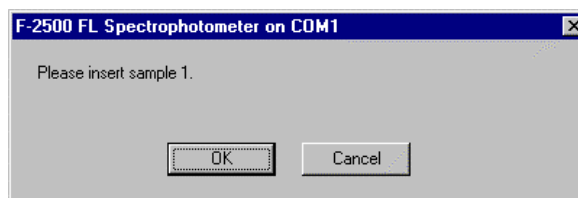

Fig. 3-11
- (3) The dialog box as in Fig. 3-11 will open. Set each sample and click **OK**.